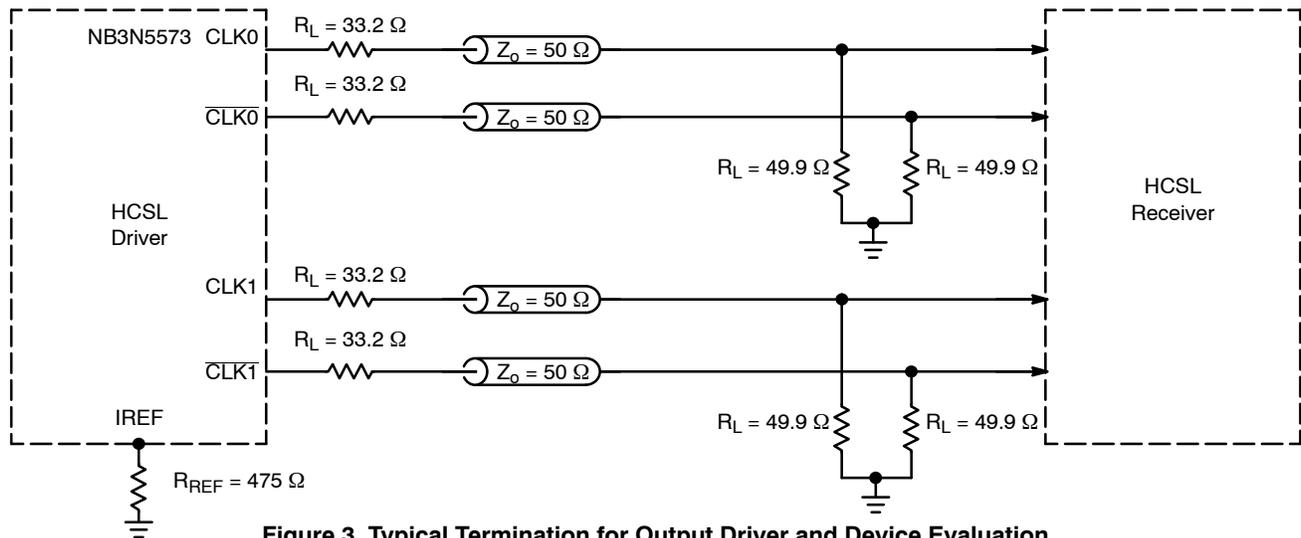

Figure 3. Typical Termination for Output Driver and Device Evaluation
- Measurement taken with outputs terminated with R_S = 33.2 Ω, R_L = 49.9 Ω, with test load capacitance of 2 pF and current biasing resistor set at 475 Ω. See Figure 3.
5. Measurement taken from differential output on single-ended channel terminated with $R_S = 33.2\ \Omega$, $R_L = 49.9\ \Omega$, with test load capacitance of 2 pF and current biasing resistor set at 475 Ω . See Figure 3.